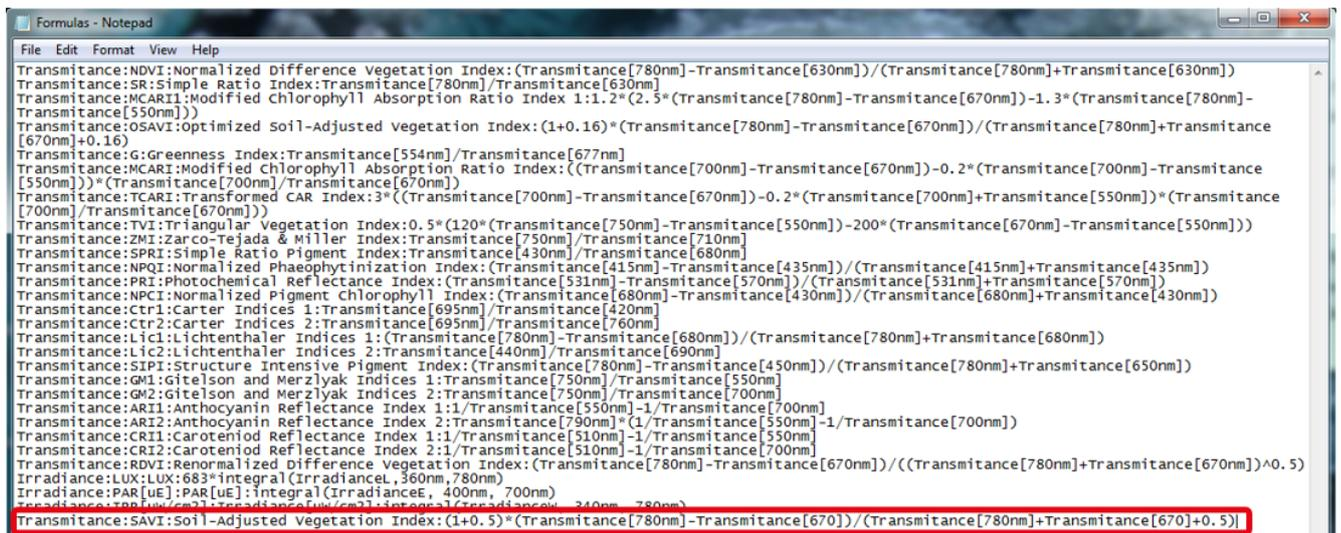

Fig. 41 Formulas configuration file – adding new index.
3. Write your index into this .txt file and save it (Fig. 41).